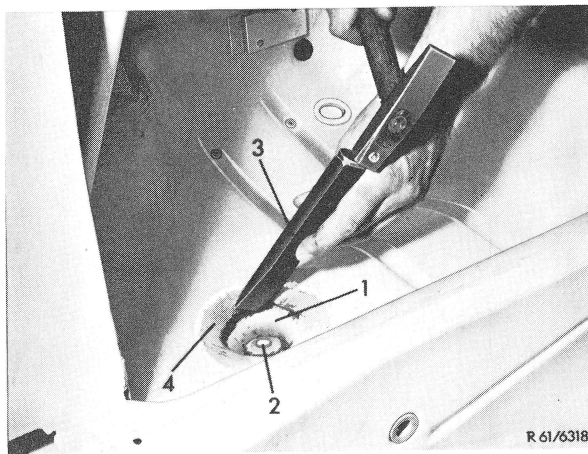
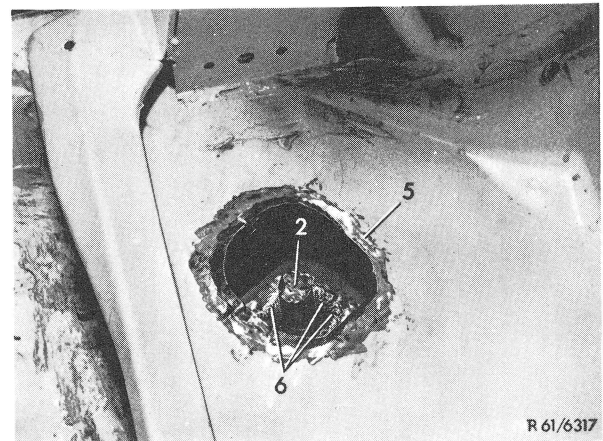

Fig. 1
Fig. 2
- 5 Cutout closing plate (1) above supporting bearing (2) with chisel (3) (Fig. 1).
6 Grind off remaining portions of flange (4) (Fig. 1) and straighten floor plate (5) (Fig. 2).
Note: The welding seams (6) of the supporting bearing (2) are cut by means of a small grinding wheel or cylindrical milling cutter (Fig. 2).